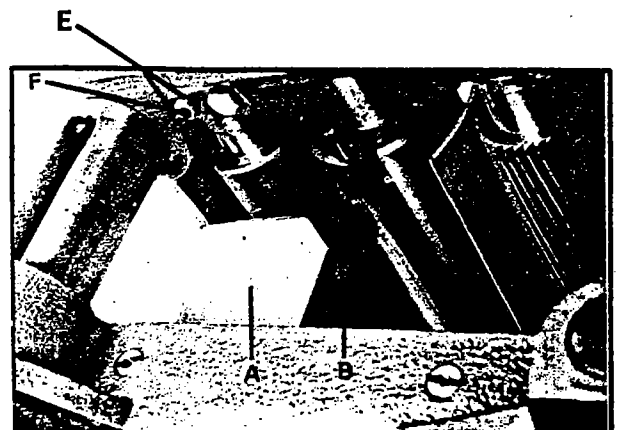

Fig. 27
4. Move the gage block (A) Fig. 27, under one end of the outfeed roll (B) as shown. The bottom of the outfeed roll (B) should just touch the top of the gage block (A). If an adjustment to the outfeed roll is necessary, loosen locknut (E) and turn screw (F) until the feed roll just touches the gage block. Then tighten locknut (E) Fig. 27.